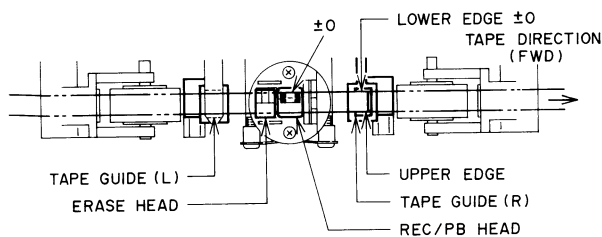

Fig. 5-1
- 1) Use the mirror tape (AJ-751178) and adjust the tape guide height with turning the tape guide height adjustment nuts (a) and (b) so that when in FWD Play mode, the tape edge and the head edge match as in Fig.5-1